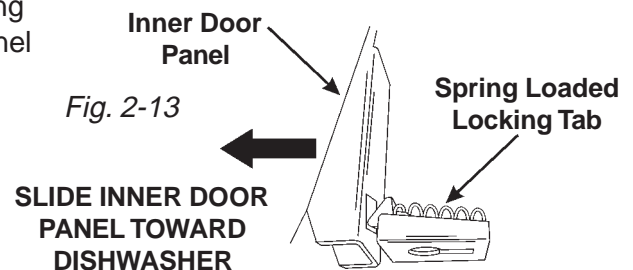

Fig. 2-13
4. Slide the inner door panel back toward the dishwasher to disengage the spring loaded locking tab from the door panel, then lift the door panel away from the door. (Fig. 2-13)